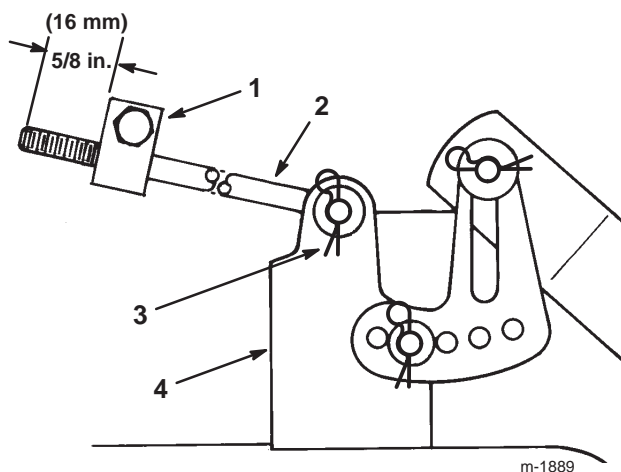

Figure 50
8. Measure the length of the rod extending out of the front of the adjusting block on the sides of the chassis (Fig. 50).
Note: If the rod length is not 5/8 in. (16 mm), remove the hairpin cotter and washer from the end of the rod (Fig. 50) and turn the rod until you obtain the 5/8 in. (16 mm) dimension.